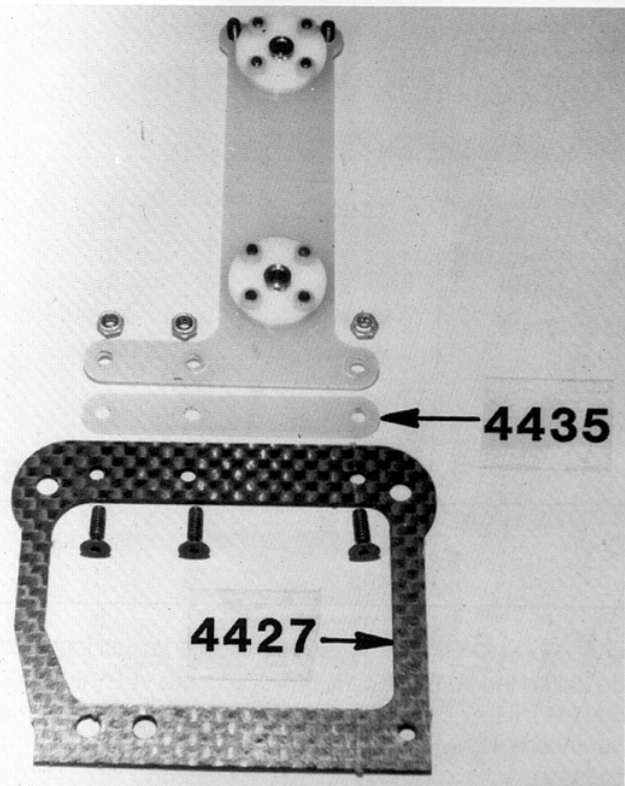

Fig. 17
□ **Figs. 17 & 18**—Install the T-bar assembly on top of the #4427 lower brace as shown. Push the three flat head screws up through the bottom of the lower brace and then slip the spacer down onto the three screws. Then slip the T-bar onto the screws. Install and tighten the three locknuts.